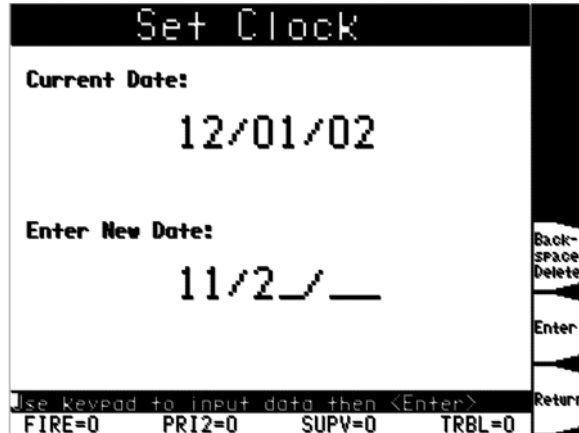

Figure 6-2. The Set Date Screen
4. The next screen displays the time in a similar format to the Figure 6-2. Use the entry keys to enter the time, and press ENTER when complete. To leave the date unchanged, press ENTER without entering a new time.